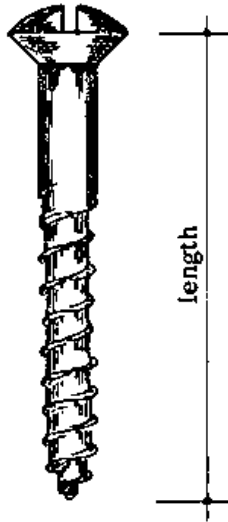

Fig. 3
- **RAISED COUNTERSUNK HEAD SCREWS:** The head of this screw combines the round and countersunk heads; round on top, tapering underneath. It is stronger than the round head screw because the head is less likely to break off. The length is measured as indicated in Fig. 3.